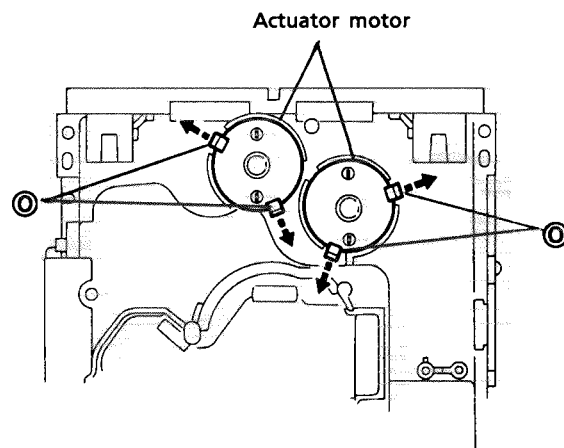

Fig. 39
5. Reverse the chassis ass'y and widen 4 pawls ② which secure both actuator motors to its arrows to remove the actuator motors. (See Fig. 39.)